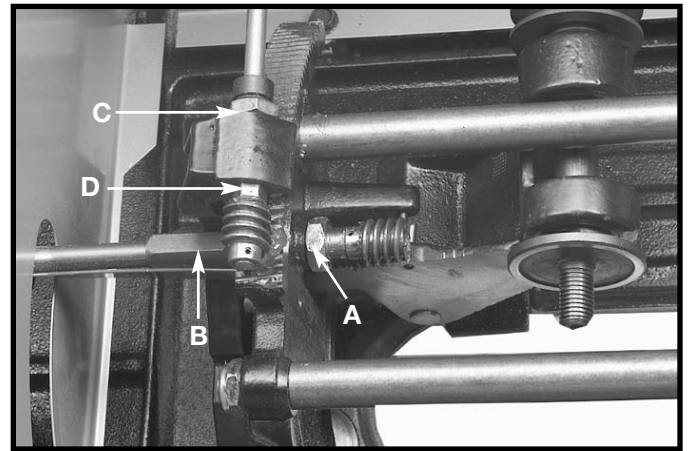

Fig. 65
2. **ADJUSTING BLADE RAISING MECHANISM** - Loosen locknut (A) Fig. 65, and turn eccentric sleeve (B) until all play is removed in mechanism and **tighten locknut (A)**.
3. **ADJUSTING BLADE TILTING MECHANISM** - Loosen locknut (C) Fig. 65, and turn eccentric (D) until all play is removed in mechanism and **tighten locknut (C)**.